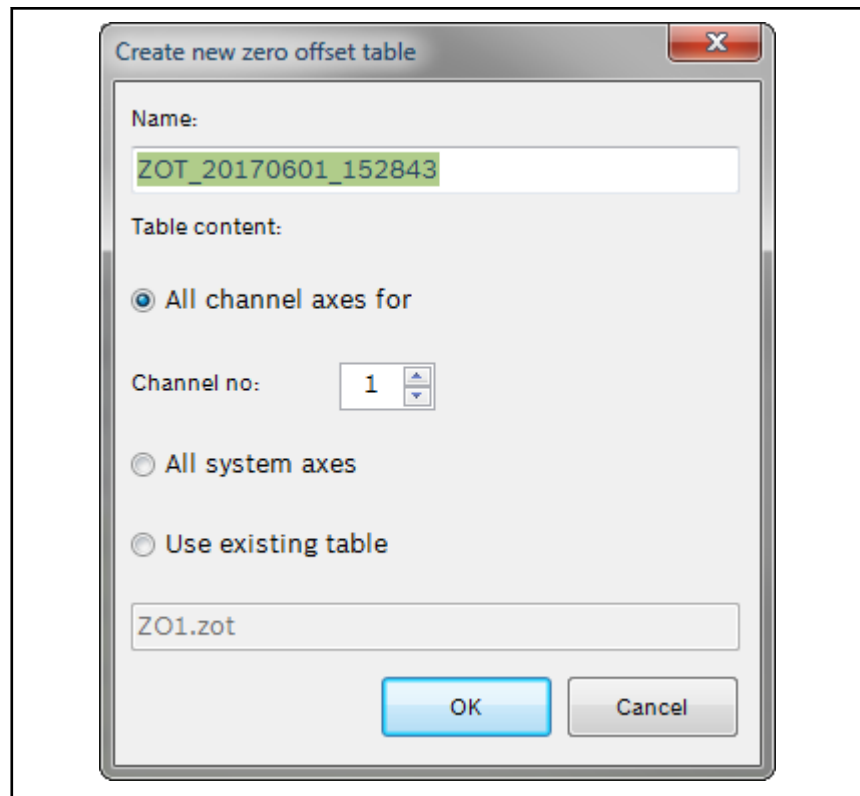

Fig. 7-33: Dialog to create a new zero offset table
- A dialog (see fig. 7-33 " Dialog to create a new zero offset table" on page 198) opens to create a new zero offset table (continue with point 3).
- A dialog opens to create a new zero offset table (see fig. 7-33 " Dialog to create a new zero offset table" on page 198).
- 1. Open the **New** dialog (see fig. 7-33 " Dialog to create a new zero offset table" on page 198) as described above.